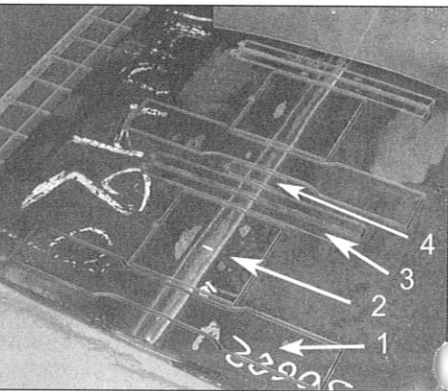

Figure 1. Different types of weld test specimens taken out of one procedure test:
As an alternative to using these three operations, abrasive waterjet cutting has shown to be an interesting alternative method for extracting test specimens. This applies especially for the commonly used testing of butt welds of plates and tubes, see figure 1 and 2. For tubes, generally several test specimens are extracted consecutively along the perimeter. Det Norske Veritas Sweden AB (DNV) have used abrasive waterjet cutting for extraction of test specimens since 1997, and the test specimen preparation has furthermore been studied at Chalmers Waterjet Lab. The results finally
- The test specimen can be extracted directly from an arbitrary location within the plate or tube, without any excessive material removal, see figures 1 and 2.